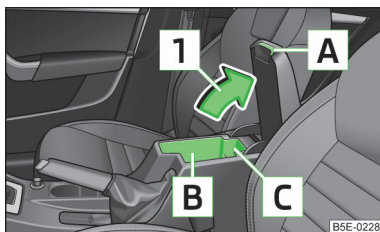

Fig. 67
- Pull and open the cover of the armrest using the handle **A** in the direction of the arrow **1** » Fig. 67.
The area **B** » Fig. 67 of the storage compartment is designed for the storage of objects with a maximum size of 98 mm x 104 mm x 142 mm.